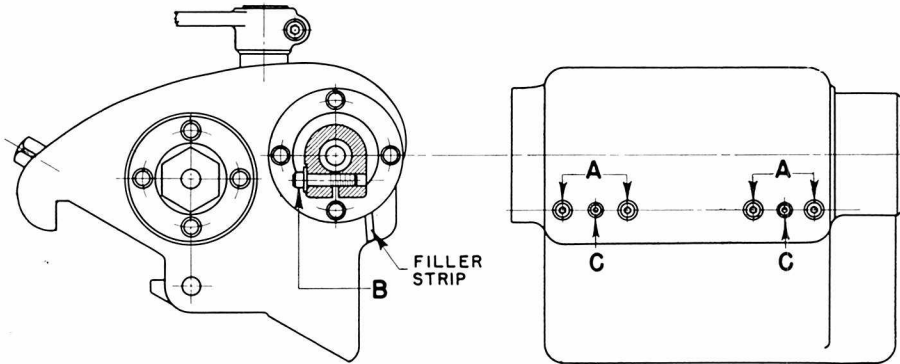

Figure 36
2. Remove four screws "A" (Figure 36) and tighten spreader screws "C".